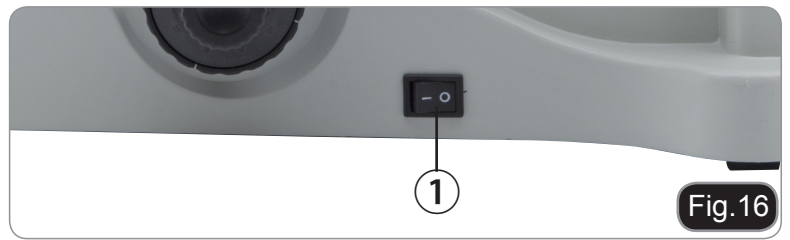

Fig.16
Connect the power, turn on the main switch ①. (Fig.16)